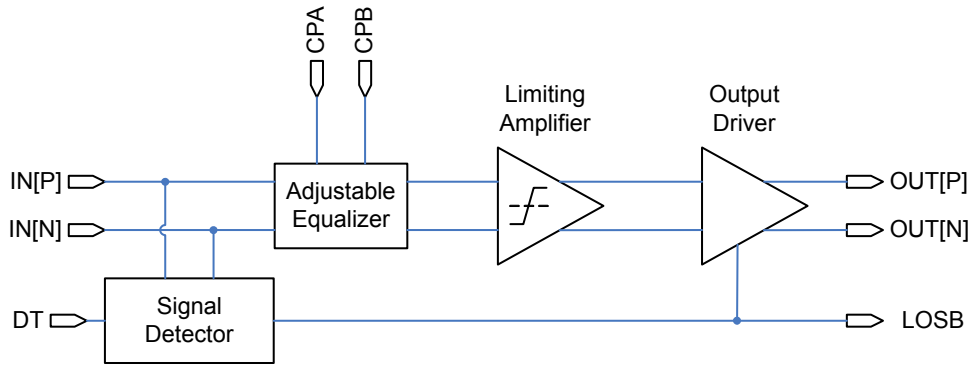

FIGURE 4. FUNCTIONAL BLOCK DIAGRAM OF THE ISL36111
The ISL36111 is an advanced lane-extender for high-speed interconnects. A functional diagram of ISL36111 is shown in Figure 4. In addition to a robust equalization filter to compensate for channel loss and restore signal fidelity, the ISL36111 contains unique integrated features to preserve special signaling protocols typically broken by other equalizers. The signal detect function is used to mute the channel output when the input signal falls below the level determined by the Detection Threshold (DT) pin voltage. This function is intended to preserve periods of line silence (“DC idle”). Furthermore, the output of the Signal Detect/DT comparator is used as a loss of signal (LOS_B) indicator to indicate the absence of a received signal.
As illustrated in Figure 4, the core of the high-speed signal path in the ISL36111 is a sophisticated equalizer followed by a limiting amplifier. The equalizer compensates for skin loss, dielectric loss, and impedance discontinuities in the transmission channel. The equalizer is followed by a limiting amplification stage that provides a clean output signal with full amplitude swing and fast rise-fall times for reliable signal decoding in a subsequent receiver.